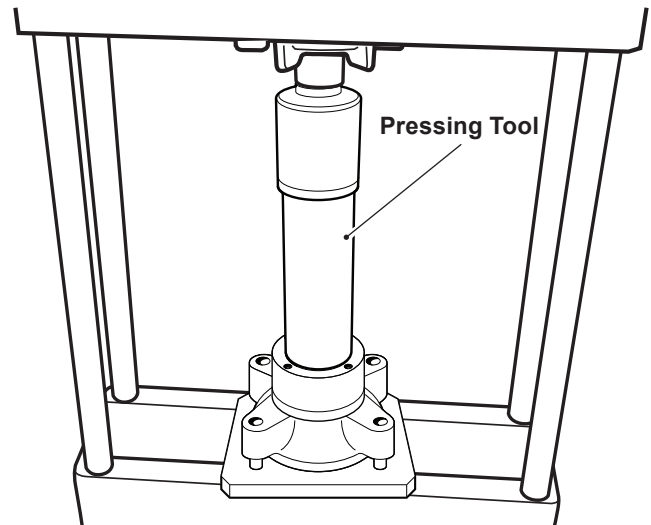

Figure 9, Output Shaft/Press Tool
6. Position output shaft (7) over motor housing (9) and carefully lower into the motor housing (9). Press the output shaft with ball bearing, washer and seal into motor housing. *See figure 9.*